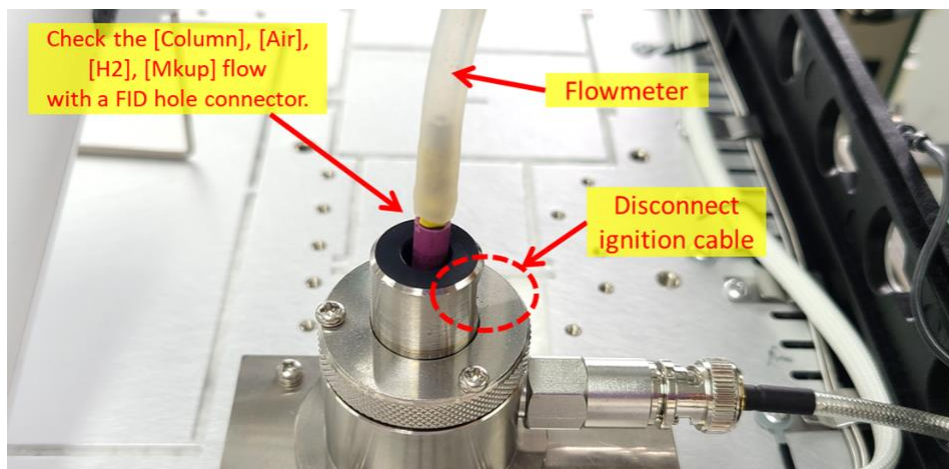

Figure 14. Where to measure the actual flow for FID flow calibration
3. Connect the digital flowmeter to FID hole (indicated in Figure 14) and check the actual flow rate of 'Air'.